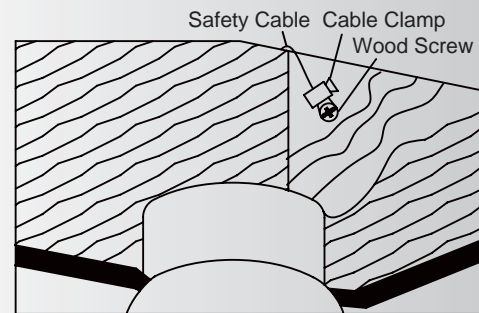

Fig. 11-2
Step 2. Adjust the length of the safety cable to reach the screw and washers by pulling the extra cable through the cable clamp until the overall length is correct, put the end of the cable back through the cable clamp, forming a loop at the end of the cable. Tighten the cable clamp securely. Now, put the loop in the end of the safety cable over the wood screw and under the washer. Tighten the wood screw securely. See Fig. 11-2